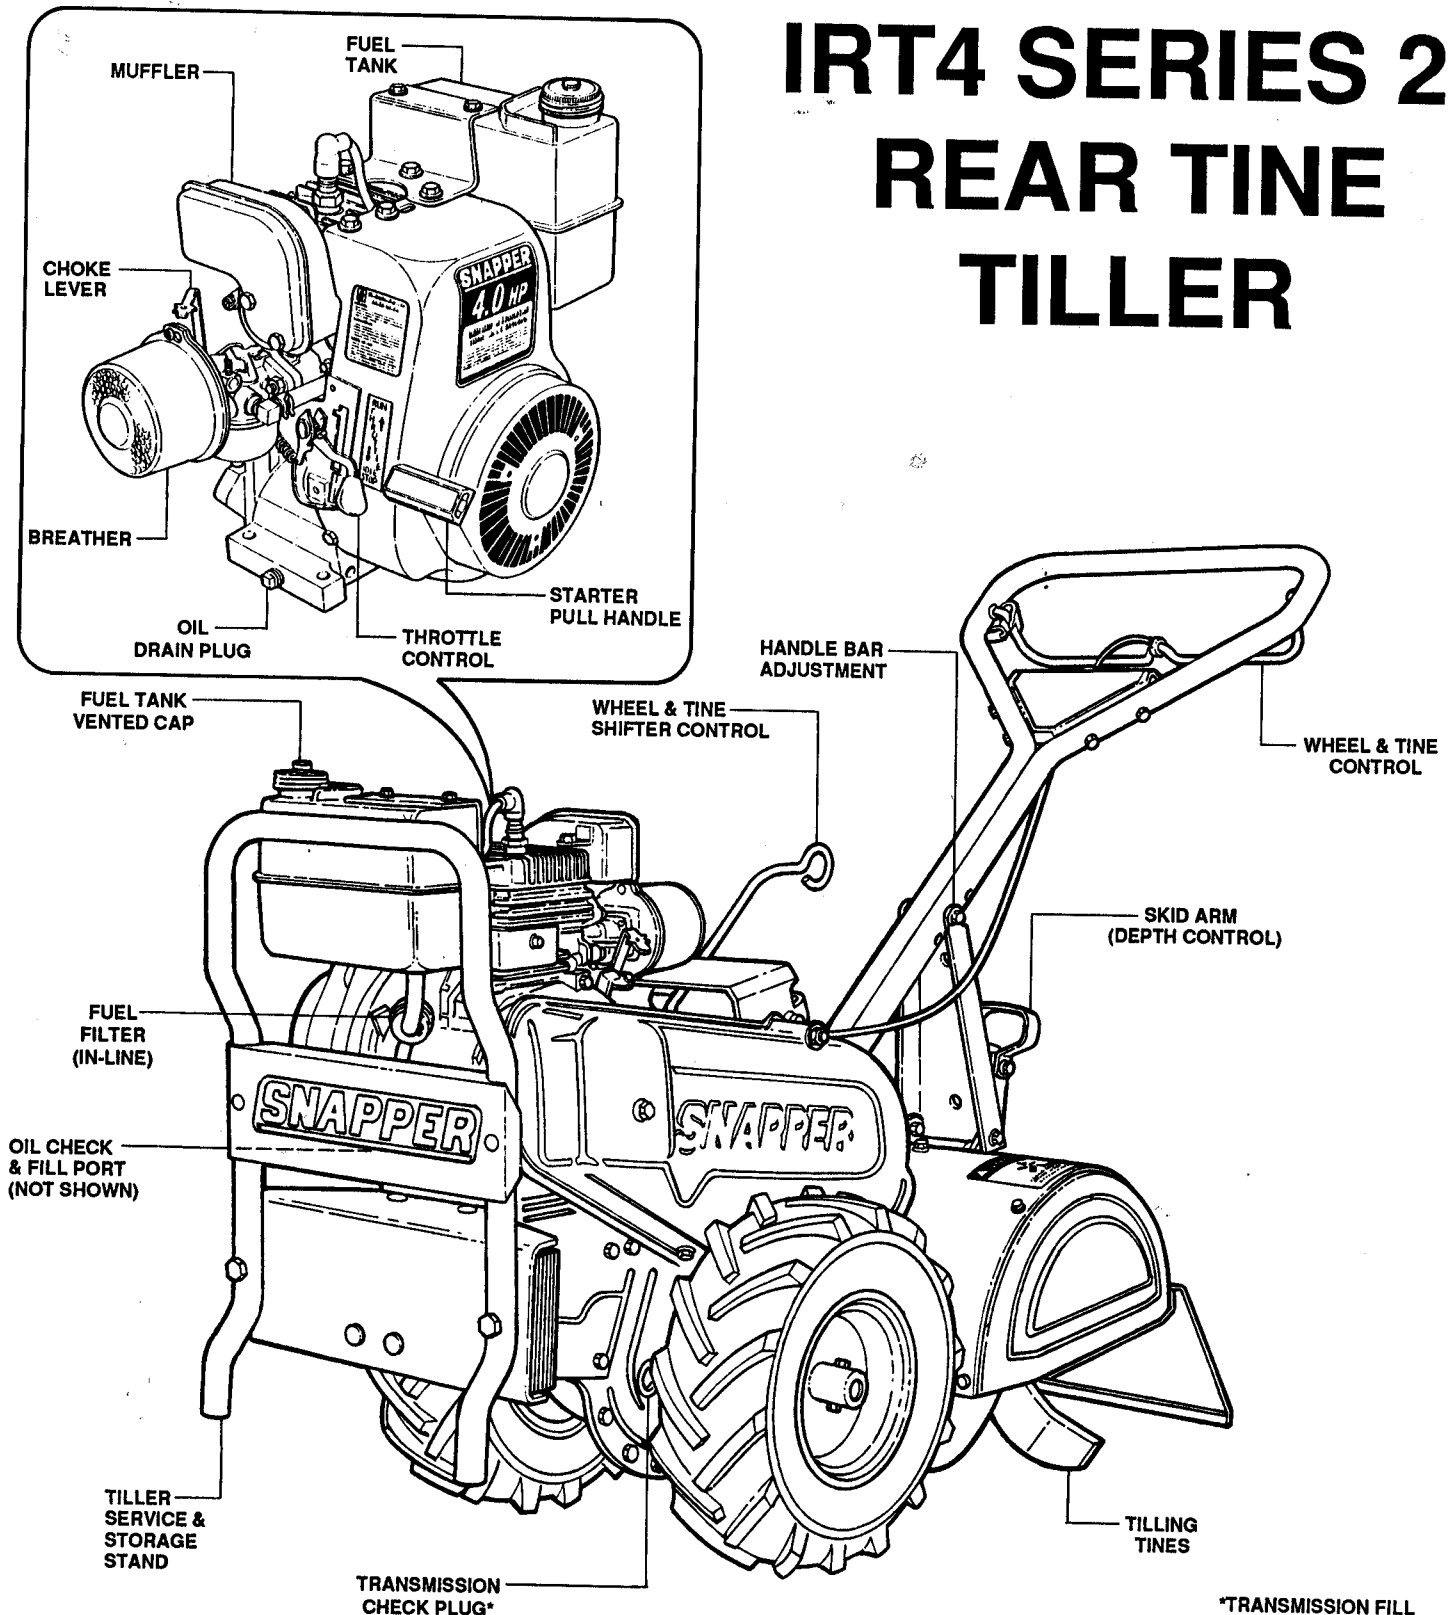

FIGURE 1
**INTRODUCTION:** This manual covers the recommended operating procedure and routine service requirements on SNAPPER IRT4 Series 2 Rear Tine Tillers. It is recommended that all operators of this tiller become thoroughly familiar with the controls and proper operation of the unit before operating. Specific details involving the engine are found in the separate engine owner's manual. Study these manuals before operating and keep both handy for future reference. Refer to Figure 1 above for location of controls and other essential components on the IRT4.